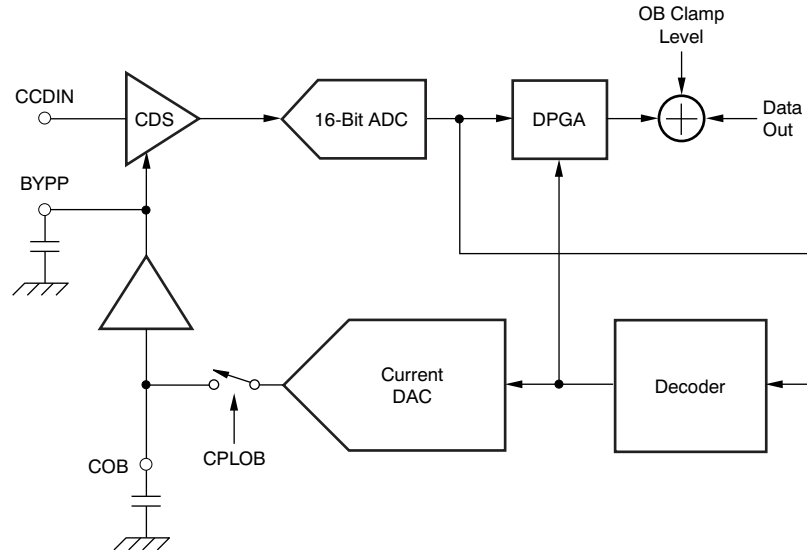

Figure 5. OB Loop and OB Level Clamp
The VSP2560/62/66 have a built-in optical black (OB) offset self-calibration circuit (OB loop) that compensates the OB level by using OB pixels output from the CCD image sensor. A block diagram of the OB loop and OB clamp circuit is shown in Figure 5. CCD offset is compensated by converging this calibration circuit while activating the CLPOB pin during a period when the OB pixels are output from the CCD.